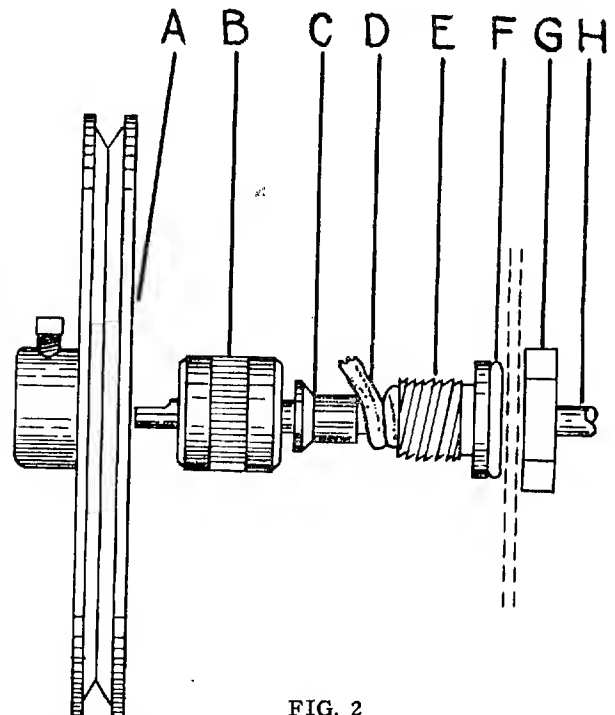

FIG. 2
**STUFFING BOX**—(See Figure 2)—Threads on the Stuffing Box Casing are left hand. To tighten cap, revolve counter-clockwise.